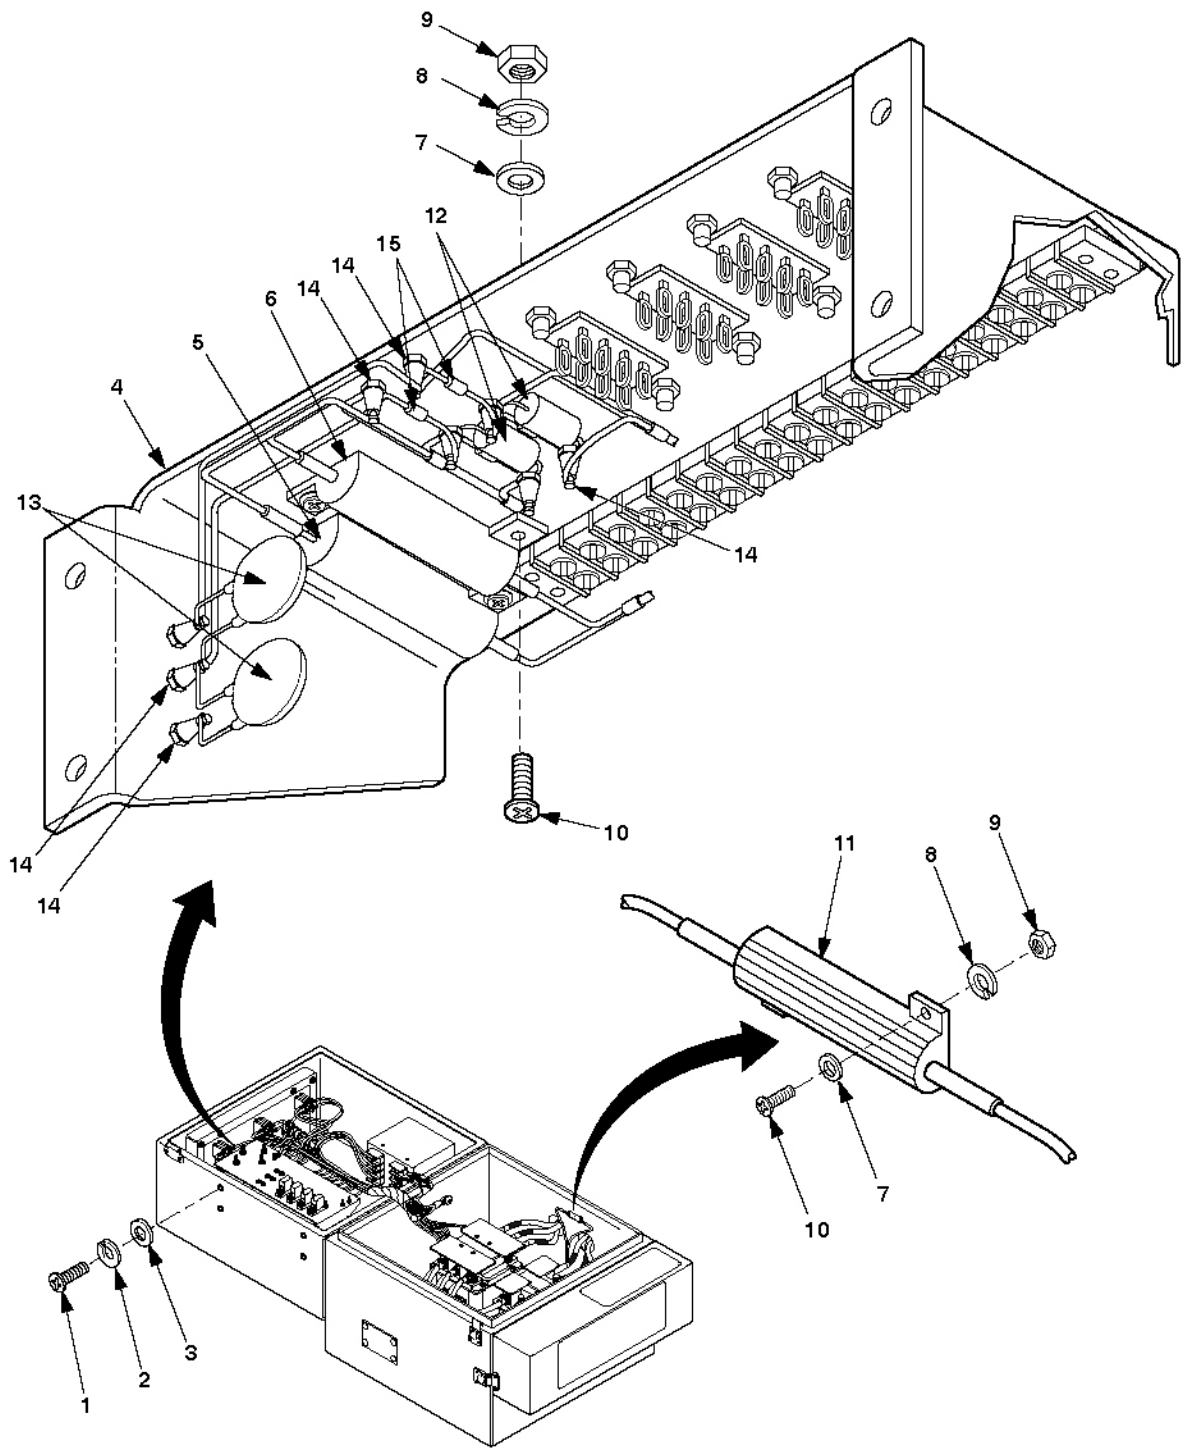

Figure 5-20, Switch Box Components Replacement.
1. Remove four screws (1, figure 5-20), lock washers (2), and flat washers (3) and invert relay board assembly (4).
2. Measure resistance of R1 (5) or R2 (6) for 246.5-251.5 ohms. If resistance is out of tolerance, replace resistor.
3. Measure resistance of R3 (11) for 2465-2515 ohms. If resistance is out of tolerance, replace resistor.
4. If resistors R1 and R2 are within tolerance, place relay board assembly in position and secure with flat washers (3), lock washers (2), and screws (1).
2. Discharge capacitors C1 and C2 (12) and C3 and C4 (13) by shorting across terminals.
6. If capacitor passes test, place relay board assembly (4) in position and secure with four flat washers (3), lock washers (2), and screws (1).
2. Unsolder one end of diode (15) to be tested.